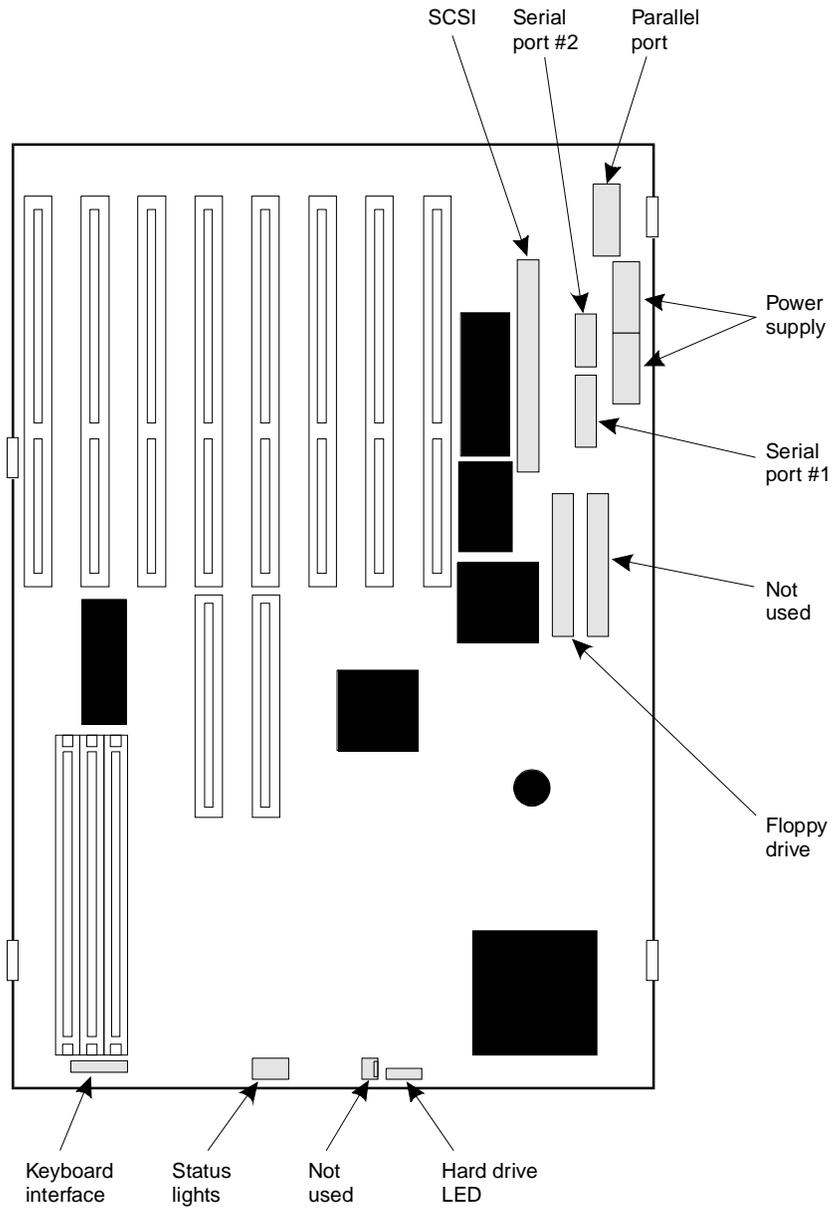

Figure C-10. Cable Connector Locations on the System Board
1. Reconnect the seven power and ribbon cables at the top right of the board as shown in Figure C-10.